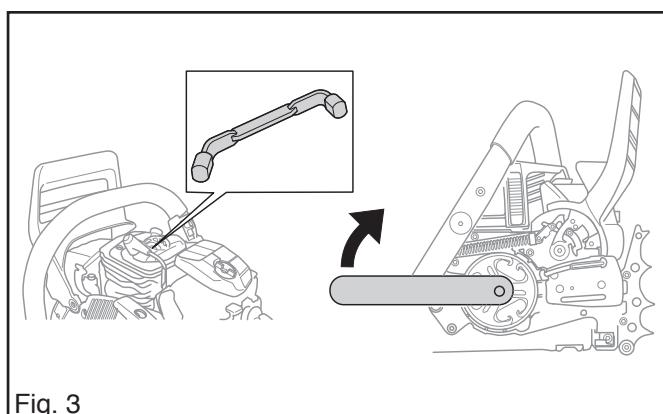

Fig. 3
4. Remove the spark plug and fit the piston stop. Remove the clutch with the clutch tool. Note! Left-hand thread. Screw in the direction of the arrow as shown in fig. 3.